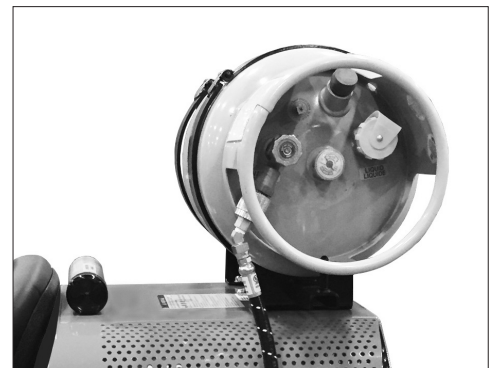

FIG. 16
2. Release tank bracket so that it swings back. It does not need to be removed completely (Figures 16 and 16.1).
3. Disconnect propane hose (Figures 16 and 16.1).